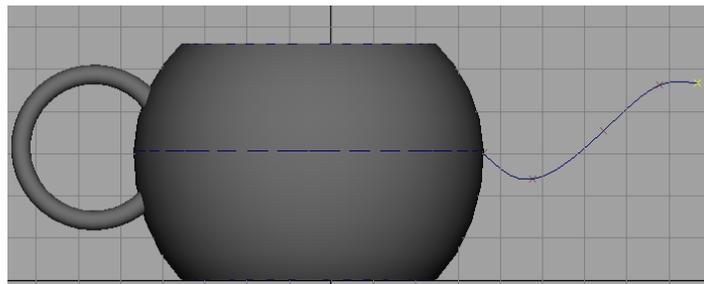

Figure 3-71 Profile curve created for the spout
- Create a profile curve in the front viewport from bottom to top, as shown in Figure 3-71 and then press ENTER.